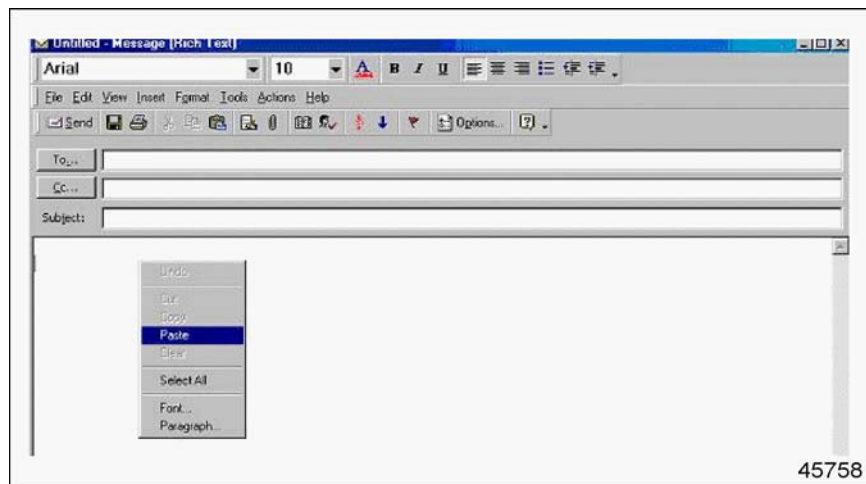

Figure 6-19 Pasting the Files in the E-mail Message
7. Open up the E-mail program and create a new E-mail message. Do a right mouse click on a blank area in the body of the E-mail and select **Paste** from the menu. See Figure 6-19.